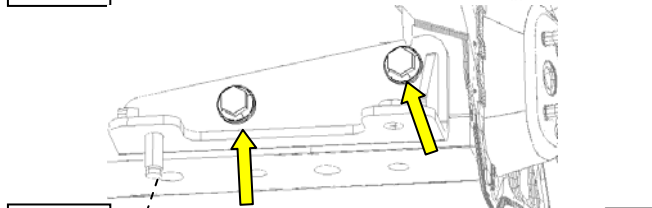

Fig. 4-1
- (b) Install LH Bracket using (2) M12 bolts to the side of frame rail. Tighten fasteners to 80N-M (60 FT-LB). (Fig 4-1)